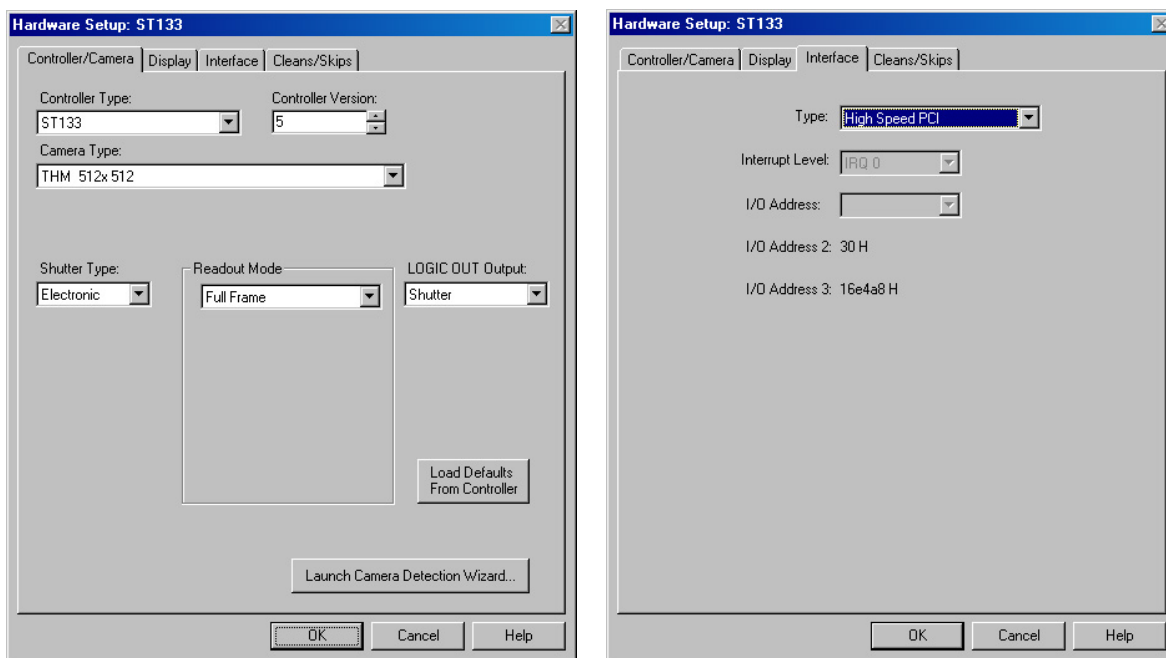

Figure 43. Hardware Setup: Controller/ Camera and Interface tabs
2. Choose the appropriate camera/controller in the **Setup|Hardware|Hardware Setup** dialog. The screen should resemble Figure 43, which shows the setup for a Thomson 512 x 512 full frame camera.
- a. Choose **High Speed PCI** or **PCI (Timer)** on the Interface tab and enter the I/O Address and the Interrupt Level, if appropriate. *See Figure 43.*